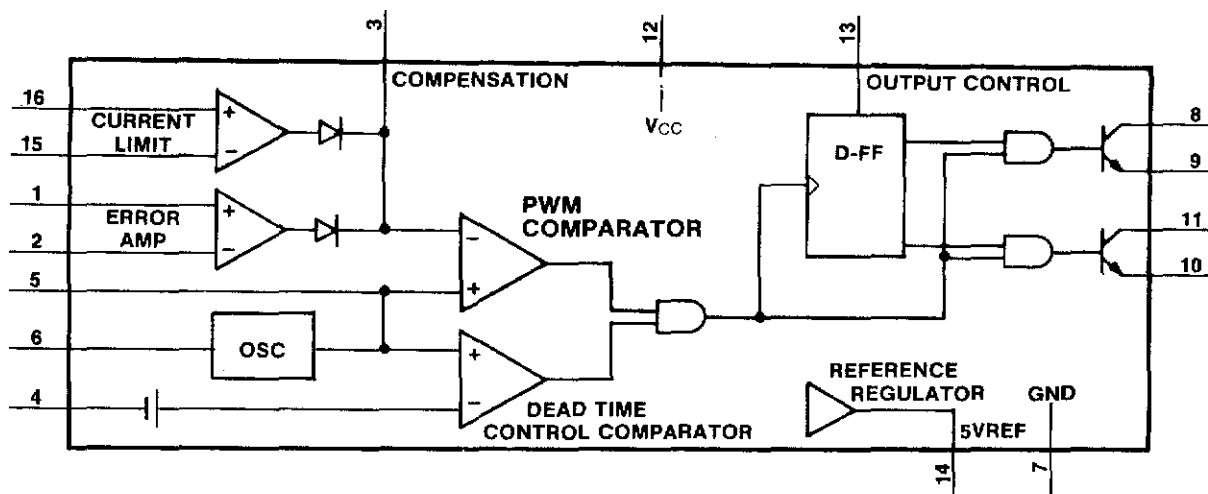

Figure 6A-2. Functional Block Diagram of a PWM
**6A-12. PWM OVERVIEW** (figure 6A-2). A pulse width modulator (PWM) requires four signals for proper modulation: a reference voltage, a feedback from the output to compare with the reference voltage for error detection, feedback current from the output for output current limiting, and a predetermined switching frequency.